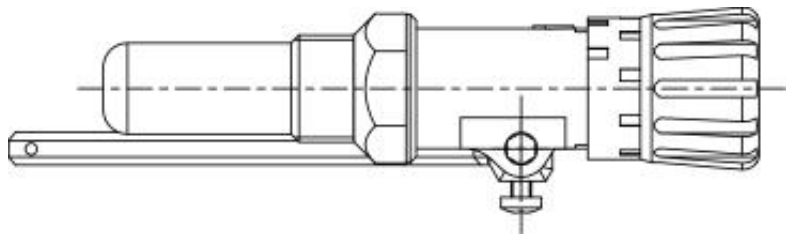

Fig. 8
4.6.2 "REGULUS RT2" Regulator (fig. 8)
The adjustment field is included between 30 and 90°C (fig. 8). Follow the same instructions of the "Thermomat" regulator for the assembly and the activation.